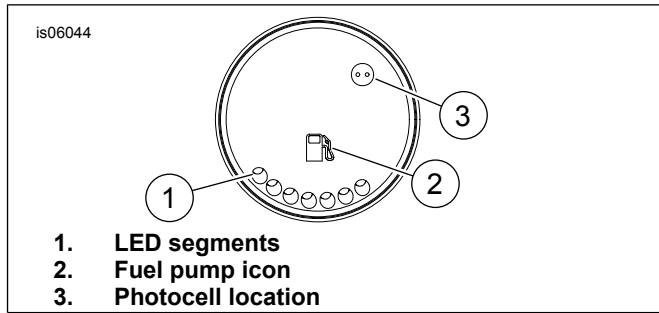

Figure 11. Gauge Features
See Figure 11. When the gauge receives power, all the blue LEDs (1) will illuminate and will turn off one at a time until the approximate fuel level in the tank is displayed.